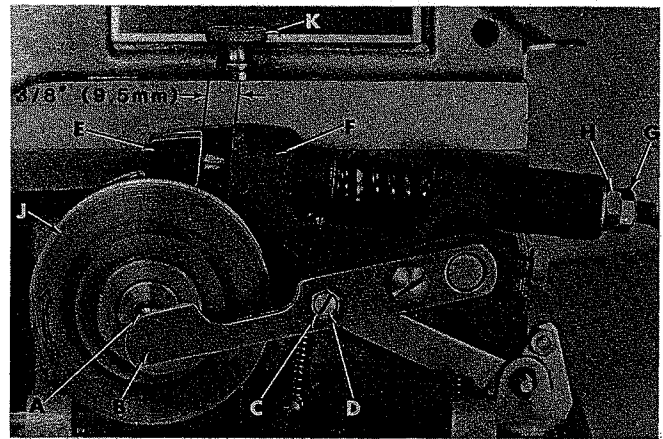
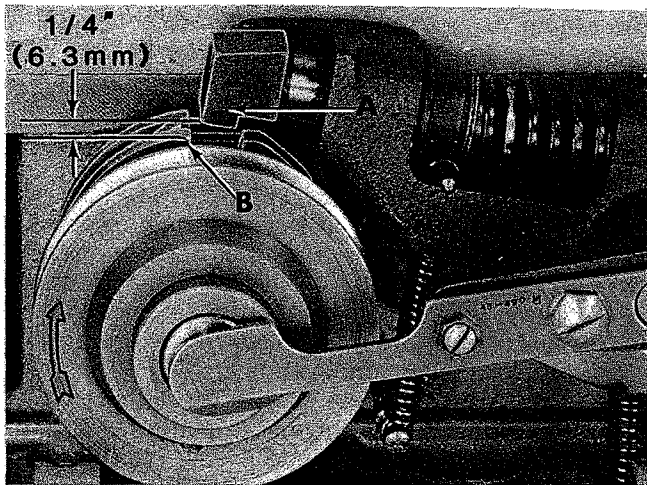
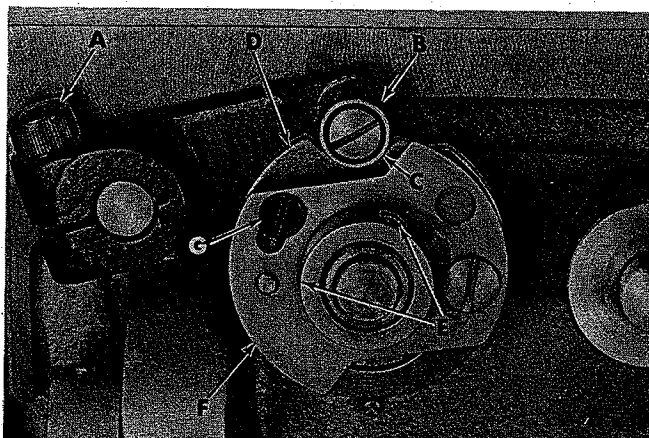
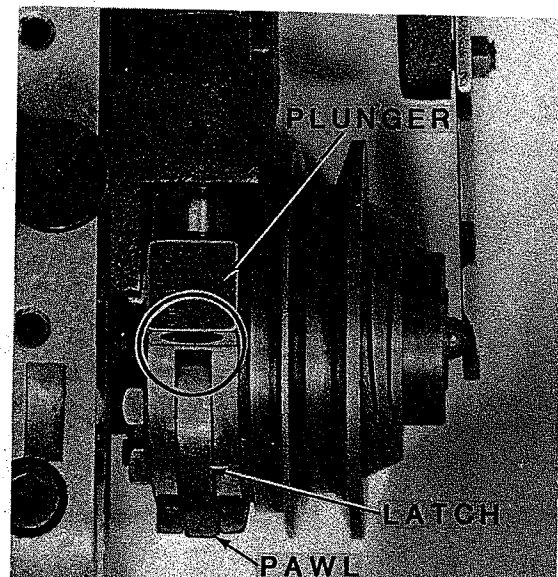

Fig. 17
Fig. 18
Fig. 19
Fig. 20
The cycling mechanism consists of the stop motion plunger assembly, clutch assembly (Fig. 17), and the stop motion cam assembly (Fig. 19).
When the operating treadle is pressed downward the plunger assembly tilts moving the plunger head upward so that it releases the stop motion disc. Lever (B, Fig. 17) now presses the idler pulley against the clutch transferring the rotary motion to the shaft. During the stitching cycle, the stop motion cam (D, Fig. 19) holds the stop motion plunger and clutch in this position by means of a roller and lever affixed to the same shaft as the stop motion plunger assembly. At the completion of the cycle the roller drops into a recess in the cam (D, Fig. 19) allowing the clutch to disengage and the stop motion plunger to contact the vertical face of the stop motion disc. The cycle is now complete and the machine is in STOP POSITION.
Figure 17 shows the machine in STOP POSITION. Note that the vertical face of the stop motion disc (J) is in contact with the plunger (E). The following instructions refer to the machine in STOP POSITION so it is important to understand the term.
Machine is in STOP POSITION. Push idler pulley in so that it contacts the clutch. There should be 1/32 inch (0.8 mm) clearance between the ball (A, Fig. 17) and lever (B).
Machine is in STOP POSITION. Plunger head (E, Fig. 17) extends 3/8 inch (9.5 mm) from bracket (F).
Depress the treadle to engage machine into RUN POSITION. Rotate the pulley two complete revolutions in operating direction, then release the treadle. Measure the distance from the plunger head (A, Fig. 18) to the upper edge of the vertical face on the clutch disc (B). This distance should be 1/4 inch (6.3 mm).
Loosen clamp screw (A, Fig. 19) for the stop motion trip lever. Hold the lever down firmly so that roller (B) is against the cam then move the plunger (A, Fig. 18) up or down to the correct dimension. Tighten clamp screw (A, Fig. 19) securely.
Machine is in STOP POSITION. Rotate the stop motion disc in the reverse direction so that the vertical face moves away from the plunger head, approximately 1/4 revolution. Stop at a point where the plunger head is located at the edge of the cut-out for the pawl (See Fig. 20). The plunger head should now be in contact with the stop motion disc. The right stop motion cam (D, Fig. 19) should be in position so that the front of the recess on the cam is touching the roller at point (C).
Loosen set screws (E, Fig. 19). With the plunger head positioned as described in "Check", rotate the cam in operating direction so the front edge of the recess contacts the roller. Tighten screws (E).
Machine is in STOP POSITION. Cam (F, Fig. 19) is set at the factory so the roller will drop into the recess at the earliest possible time relative to the stop motion cam (inner cam) setting. Should the impact noise of the machine stopping increase after considerable use, the soft stop cam requires adjustment.
Loosen screws (E, Fig. 19) and screw (G). Slightly advance the outer cam (F) by rotating clockwise. Tighten screw (G). Now repeat the stop motion cam (inner cam) adjustments, described earlier.
Machine is in STOP POSITION. For reference, at this time the needle bar should have reached the top of its stroke and descended approximately 1/4 inch (6.3 mm). To complete this check it becomes necessary to lay the upper machine section on its side. Remove belt, loosen the knurled thumbscrew (K, Fig. 17) and tilt the machine on its side.